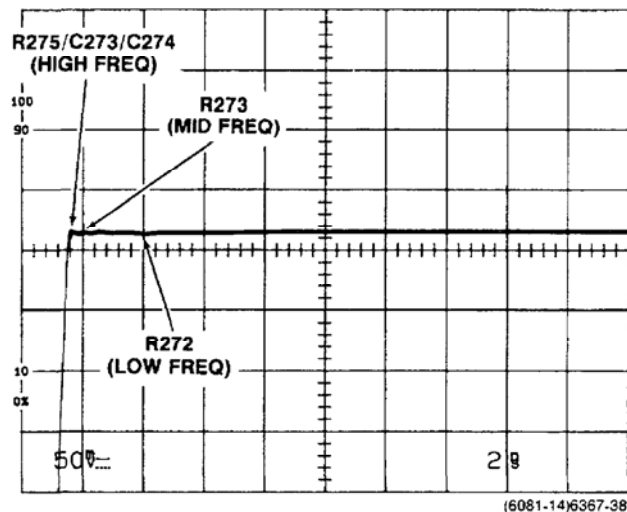

Figure 5-1. Areas of waveform affected by HF compensation.
f. ADJUST—DLY LINE HF COMP adjustments (R272, R273, R275) for flattest response and (C274, C273) for sharpest front corner with minimum overshoot. Figure 5-1 shows the area of the waveform affected by each adjustment.